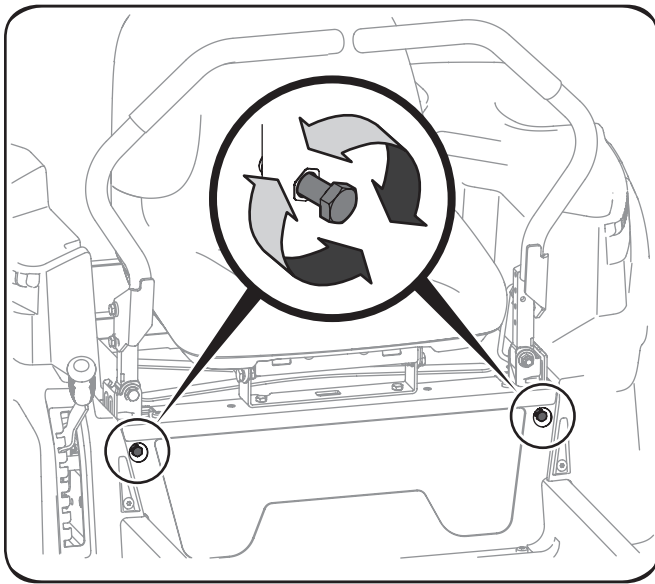

Figure 29
2. Locate the drive control lever stop adjustment bolts on the front of the seat frame. See Figure 29.